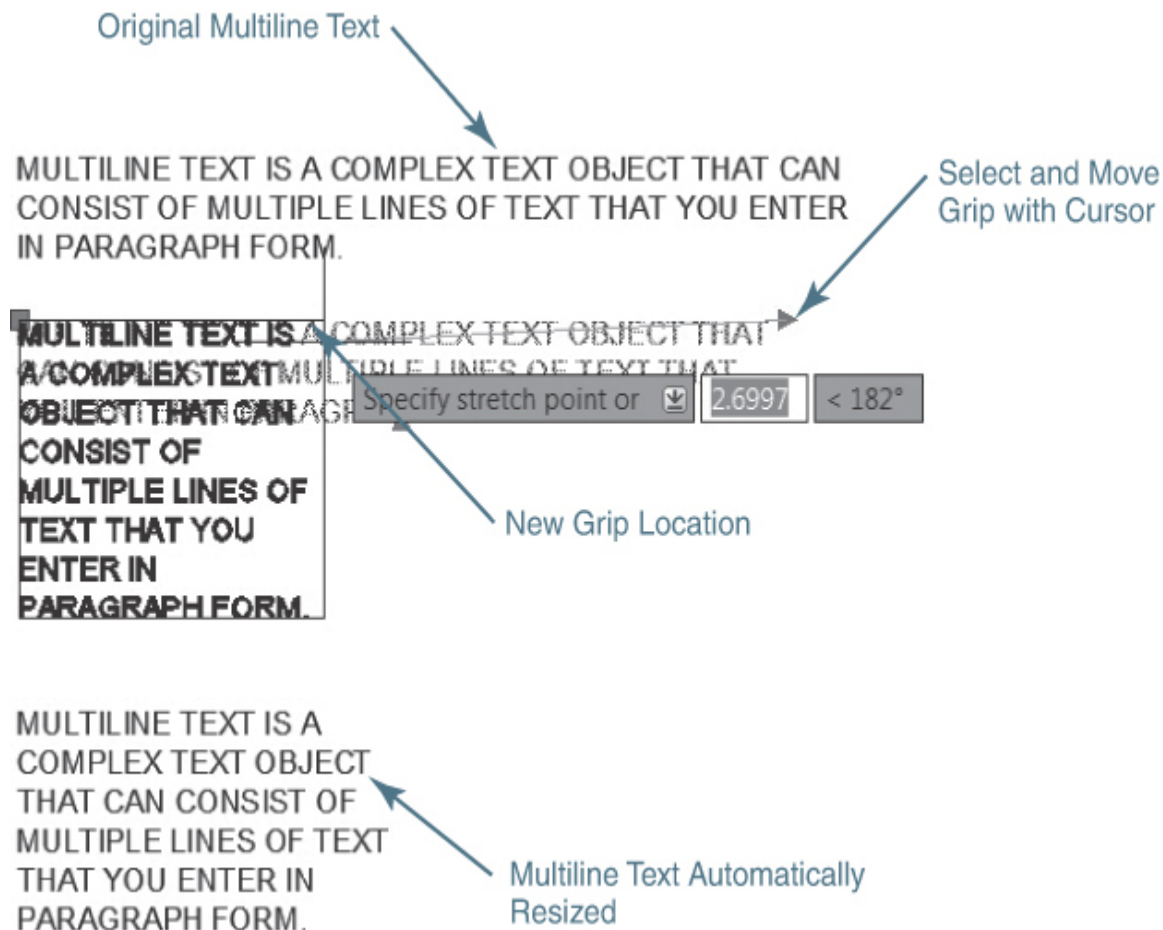

Figure 11-52
You can also use grips to modify text. Both single-line text and multiline text can be moved using the grip located at the text insertion point. Multiline text also has grips that can be used to resize the boundary area using the **Stretch** option, as shown in Figure 11-52.
- 3 Select the top-right-corner grip and stretch the text boundary corner to the right (see Figure 11-52).